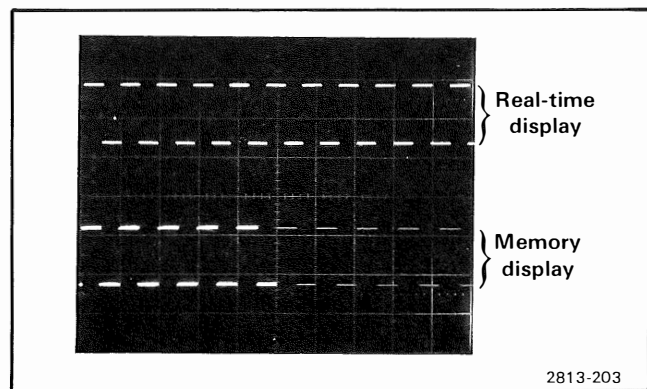

Figure 2-3. Real-time and memory displays of 5223 Calibrator signal with PRETRIGGER control set to about 50%.
7. Observe that turning the PRETRIGGER control counterclockwise from 0% causes the memory display to move across the screen from left to right. The part of the display that occurred before the trigger point is brighter than the part that occurred after the trigger point. You can verify this by varying the setting of the 5223 Mem Inten control. Figure 2-3 shows a typical display with the PRETRIGGER control set to about 50%.